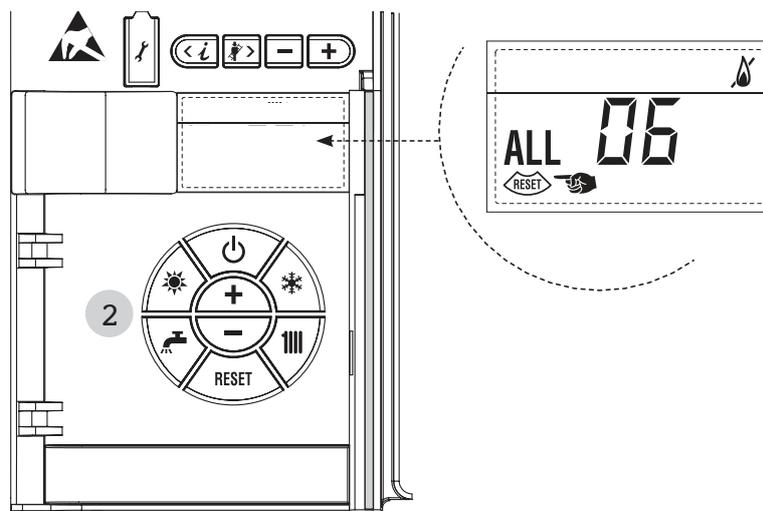

Fig. 23/5
– **ANOMALIE FLAMME PARASITE “ALL 08” (fig. 23/7)**
– **ANOMALIE CIRCULATION EAU “ALL 09” (fig. 23/8)**